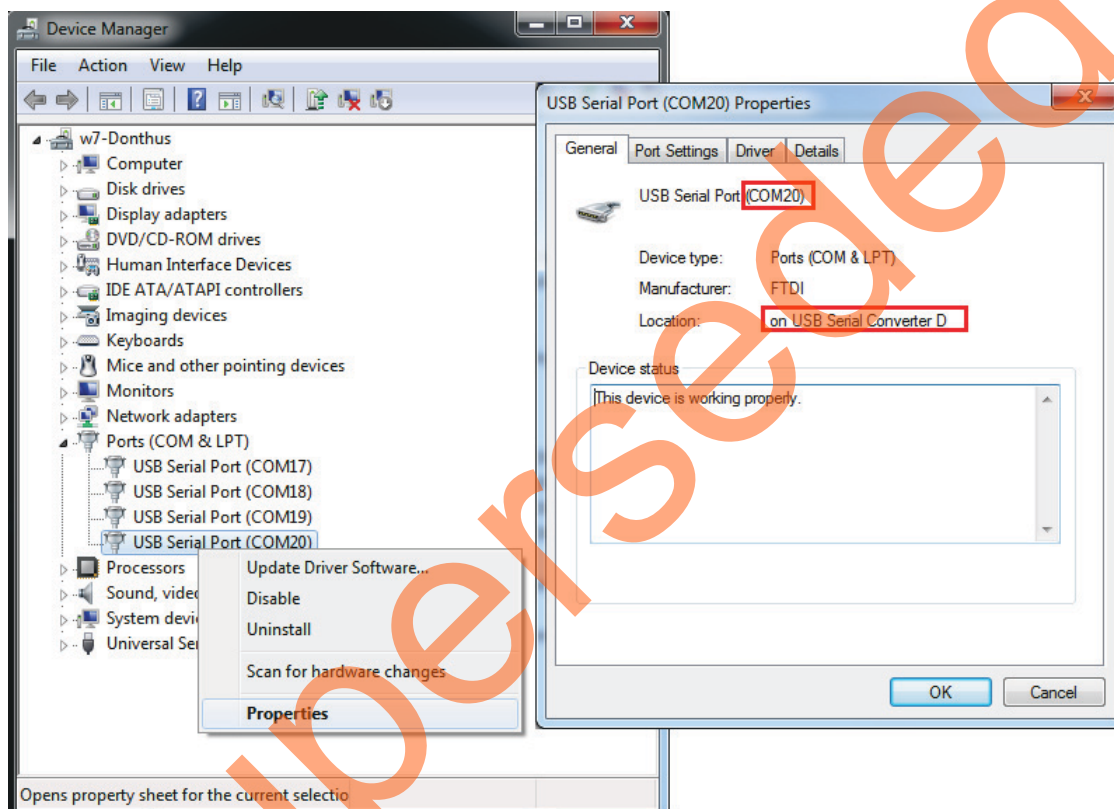

Figure 15 • Device Manager window Showing the USB Serial Port
2. Make sure that the *USB to UART bridge drivers* are automatically detected. Of the four COM ports, select the one with **Location** as *on USB Serial Converter D*. Figure 15 shows an example **Device Manager** window that has the **USB Serial Port** and its properties showing the port number and location. COM port number is required to run the demo design, so make a note of it.